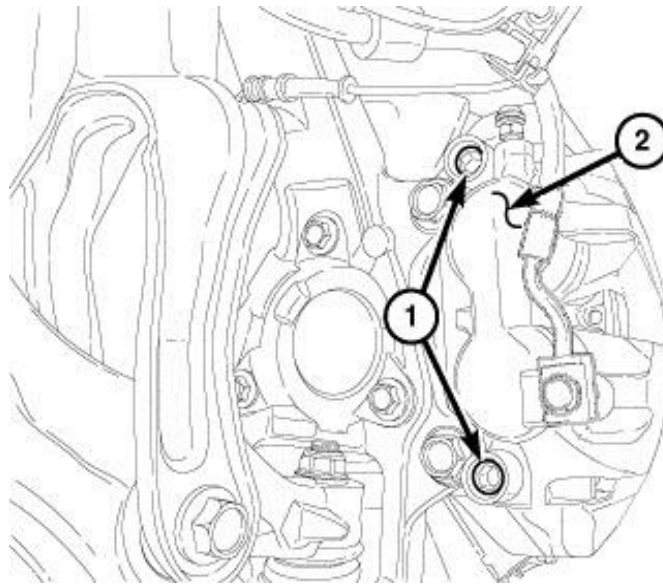

Fig. 2 Brake Caliper Removal
4. Remove and discard the dust shields covering the brake caliper guide pins (1) (Fig. 2).
5. Loosen the brake caliper guide pins (1) (Fig. 2).
6. Remove the brake caliper (2) from the adapter (Fig. 2).